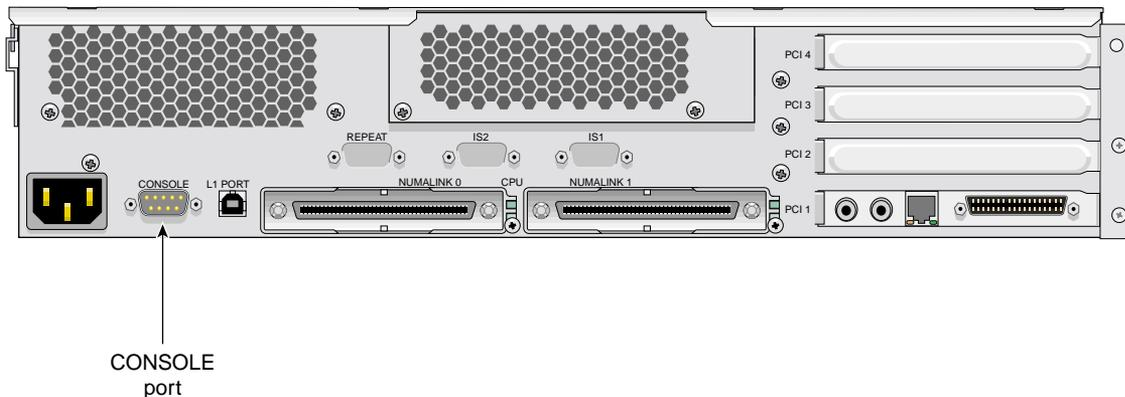

Figure 1-30 Location of the Console Port
To attach a PC to your server system, connect a null modem serial cable between the PC and the CONSOLE port of the base compute module of your system (see Figure 1-30). To establish a connection between your system and the system console (PC), follow these steps: